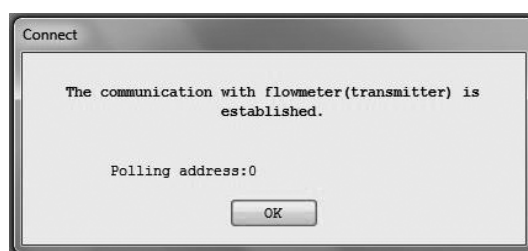

Fig. 3-11
- (4) If the connection is completed, the following message box (Fig. 3-11) will be displayed. Click "OK" button.